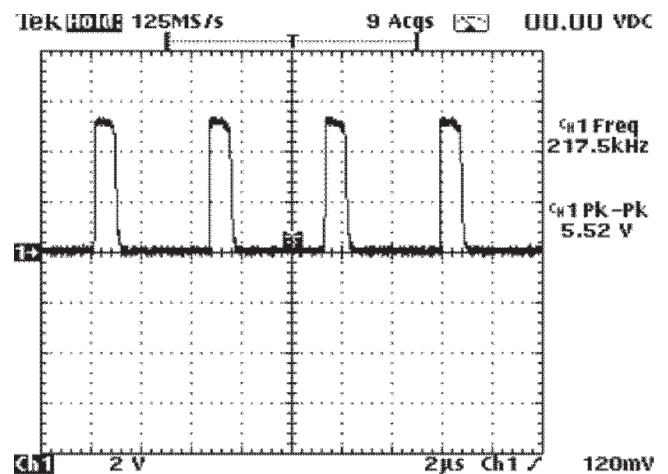

Figure 3.8. Switching pulse at node N401 (pin 3 of U19)
- Node N401 (pin 3 of U19): 210–230 kHz (see Figure 3.8). If not, check U14:1 and Q98.